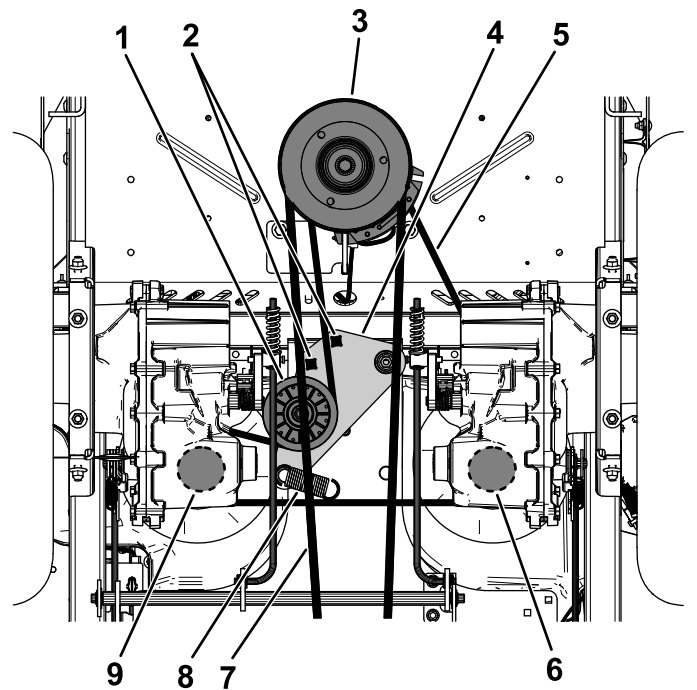

Figure 72
5. Use a 1/2-inch ratchet or breaker bar in one of the square holes in the idler arm to remove tension on the idler spring (Figure 72).
6. Remove the existing belt from the idler pulley, 2 hydraulic-pump-drive pulleys, and engine pulley (Figure 72).
7. Install the new belt around the idler pulley, engine pulley, and 2 hydraulic-pump pulleys (Figure 72).